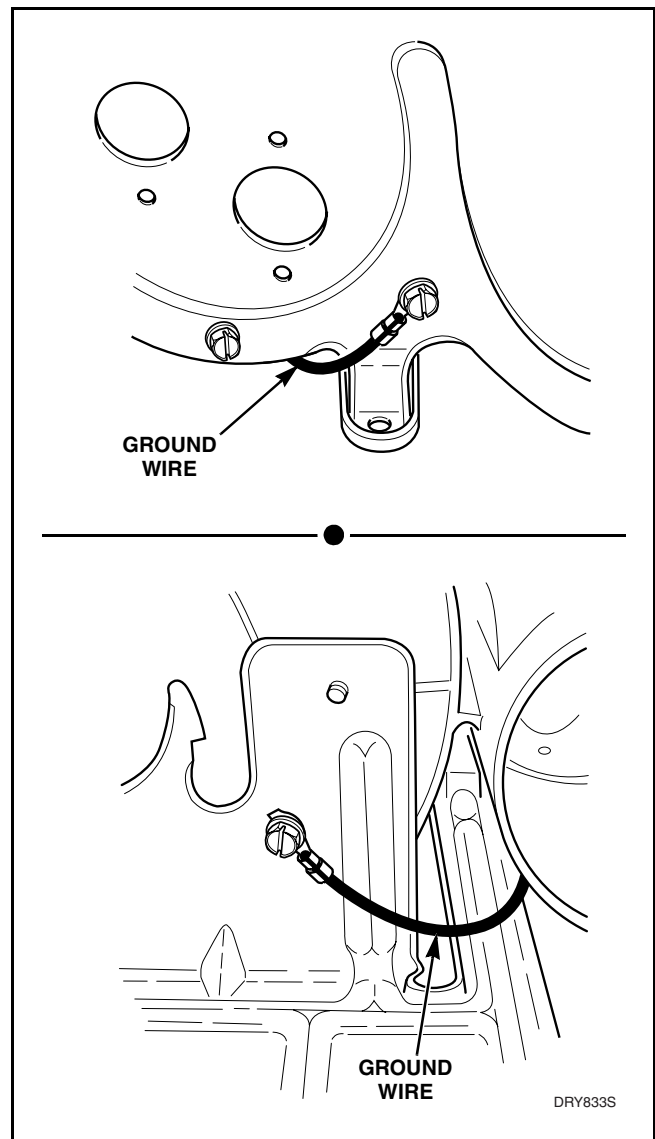

Figure 2
16. MOTOR MOUNTING BRACKET TO EXHAUST FAN COVER PLATE (GAS AND ELECTRIC MODELS THROUGH SERIAL NO. S6181364XA) Refer to *Figure 2*